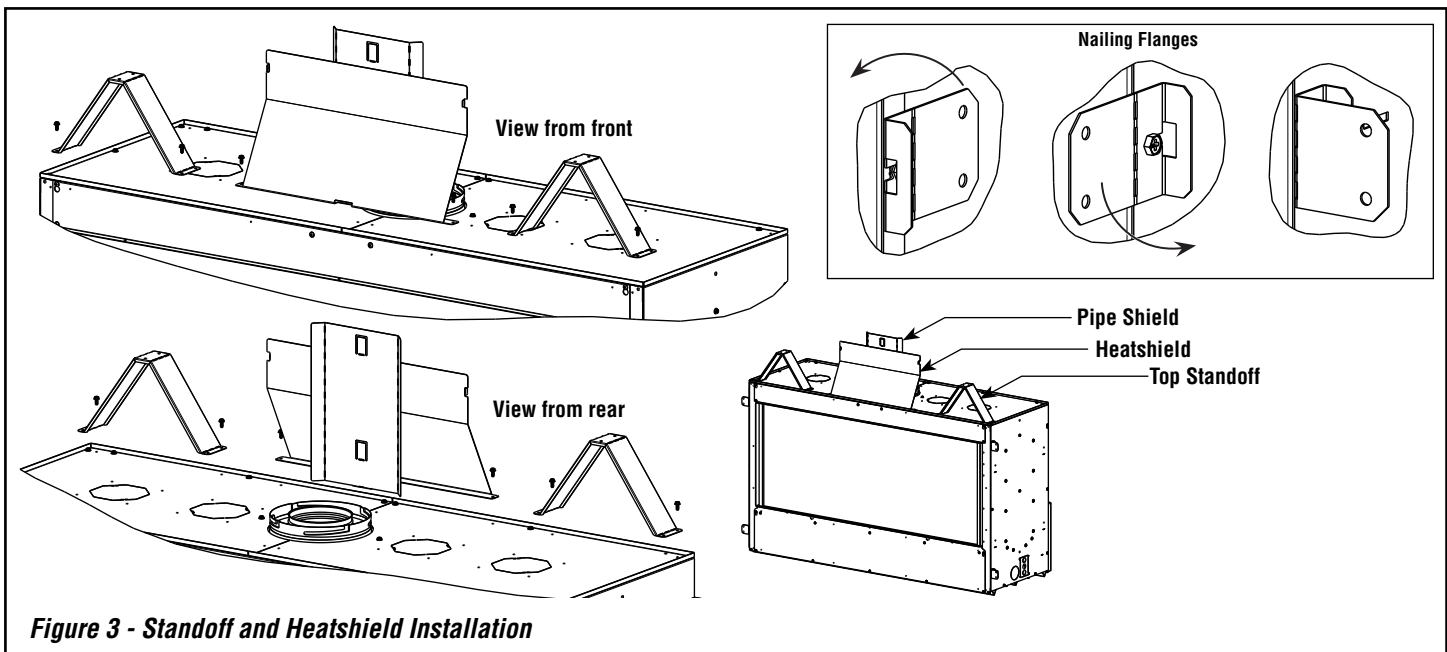

Figure 3 - Standoff and Heatshield Installation
- a. Identify top standoffs shipped flat on top of the fireplace (**Figure 3**).
2. Locate (4) nailing flanges on sides of fireplace. Loosen mounting screw and rotate 180° forward, then bend outward so that it is flush with the front of the fireplace (**Figure 3**).
3. Using supplied screws, install pipe shield with mounting tab toward front of fireplace, and vertical bends toward vent collar (**Figure 3**).
4. Install heatshield with supplied screws (**Figure 3**).